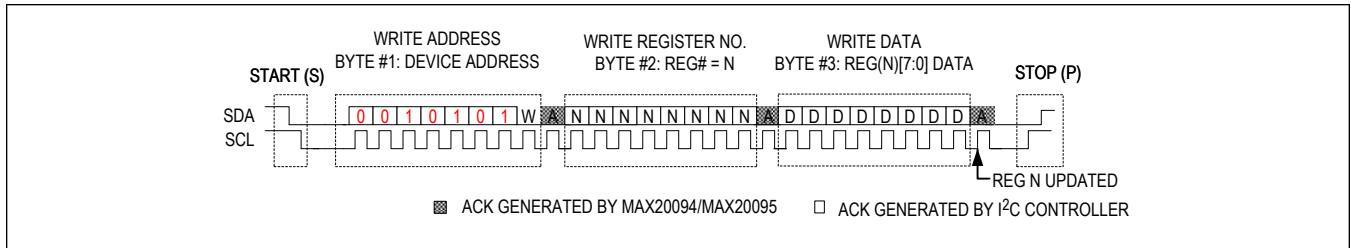

Figure 6. I²C Write Sequence
A controller device communicates with the device by transmitting the proper target address, followed by a register/command and data word(s). Each transmit sequence is framed by a START (S) or Repeated START (Sr) condition and a STOP (P) condition. Each byte is 8 bits long and is always followed by an acknowledge (ACK) clock pulse, as shown in Figure 6. The first byte contains the address of the device, with R/W = 0 to indicate a write. The second byte contains the register (or command) to be written, and the third byte contains the data to be written.